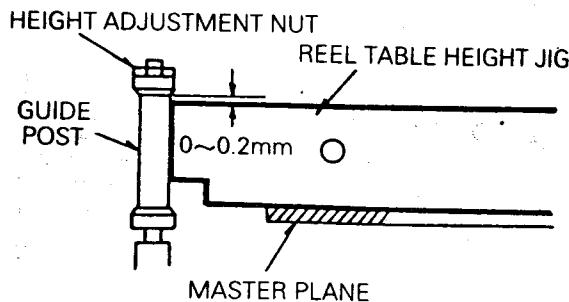

Fig. C-6-2
- 2) Set the clearance between the bottom of the Guide Post upper flange and top of the Reel Table Height Fixture to 0~0.2mm(Fig. C-6-2).